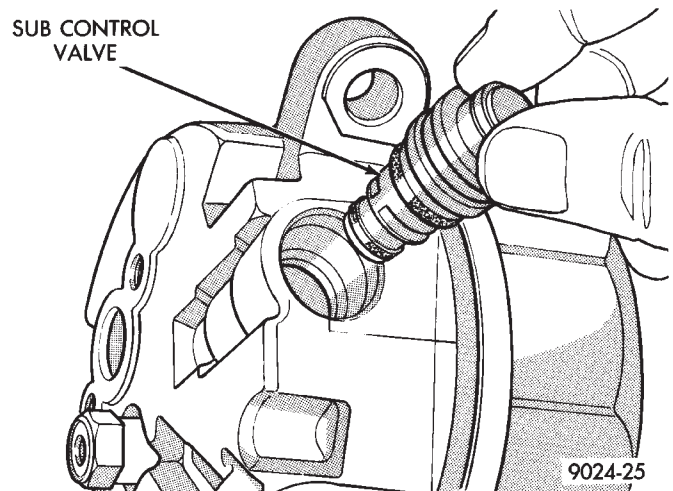

Fig. 11 Remove or Install Main or Sub Control Valve
- (4) Pull the main or sub control valve from the compressor end cover (Fig. 11).